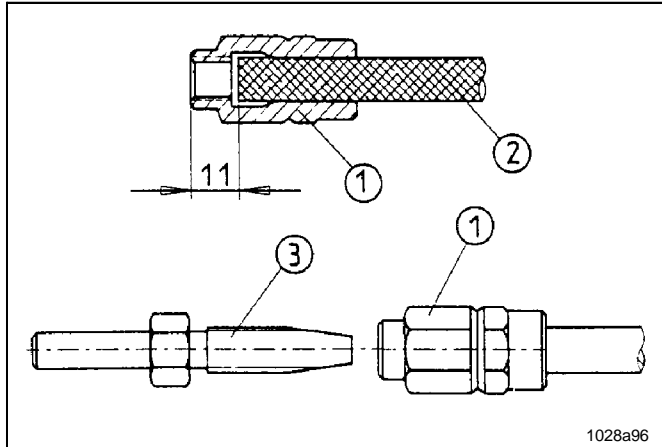

Fig. 13 Pre-assembly of the threaded sleeves and hose studs onto the main line
- Screw threaded sleeve (1, fig. 13) counterclockwise onto the high-pressure hose (2) until the illustrated dimension of 11mm is reached. Then screw the hose stud (3) into the threaded sleeve (1).